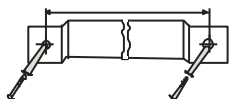

Fig. 1
1. Fix the metal plate on the wall, where the device is to be placed (see fig.1)